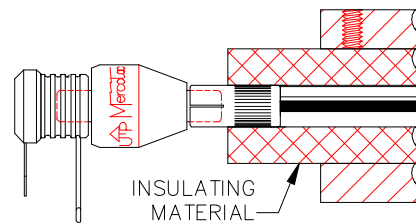

Fig 5 Thermal Insulation
7. The connector contains plastic materials that are sensitive to heat. Over-heating will cause reduced life or connector failure. Provide thermal insulation where necessary to prevent temperature of the unit from exceeding 140°F (60°C). <Fig 5>